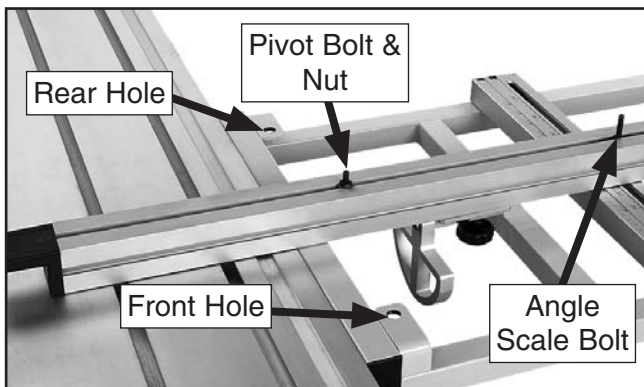

Figure 100. Crosscut fence pivot bolt and nut.
3. Lift fence up and loosen pivot bolt (see **Figure 100**).
5. Without disturbing pivot bolt position, lift fence up (see **Figure 100**), tighten pivot bolt nut, then re-insert pivot bolt into hole.